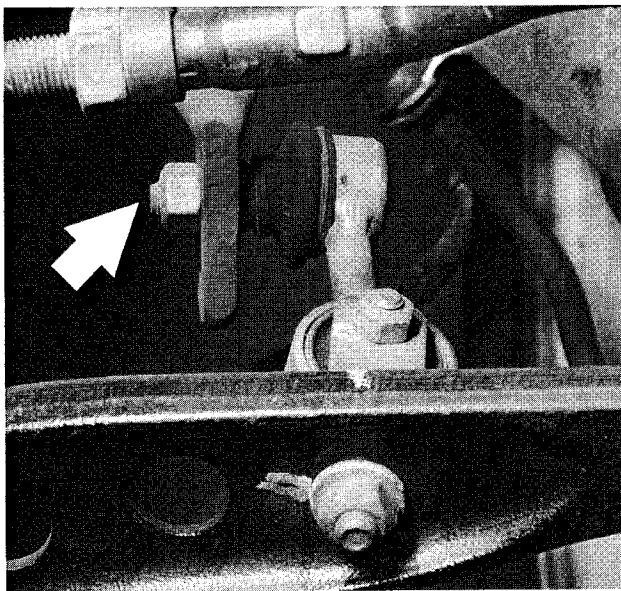

Fig. 15. Disconnect stabilizer bar connecting link at bar (arrow). (318i model shown. M3 stabilizer link attaches to strut.)
2. Remove stabilizer bar connecting link from stabilizer bar on left and right sides. See Fig. 15.